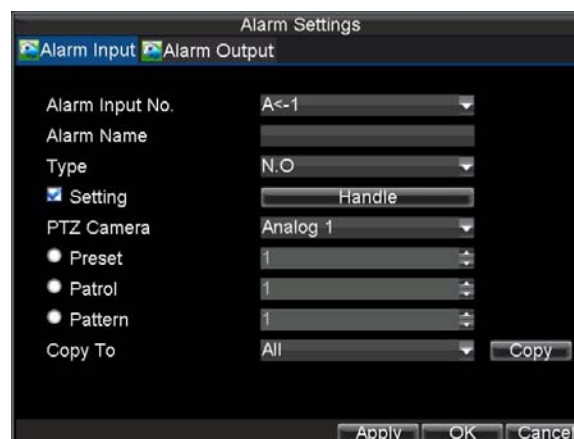

Figure 7. Alarm Management Settings
2. Select the **Alarm Input #** and click the Set button. This will open the Alarm Input Setting menu, shown in Figure 7.